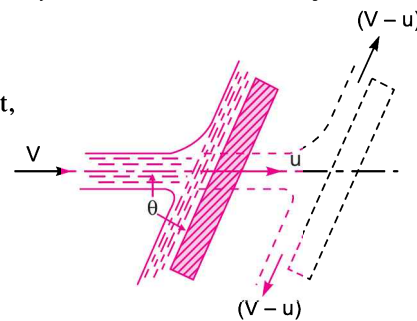

Fig. 17.11 Jet striking an inclined moving plate.
**17.4.2 Force on the Inclined Plate Moving in the Direction of the Jet.** Let a jet of water strikes an inclined plate, which is moving with a uniform velocity in the direction of the jet as shown in Fig. 17.11.